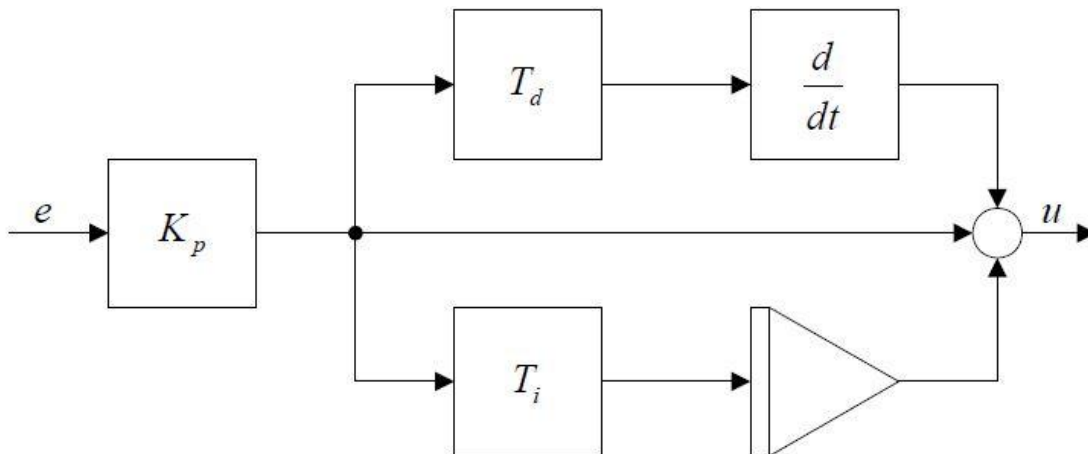

Figure 2 PID controller schematic
9. Figure 2 shows the PID controller schematics. What does K_p represent?